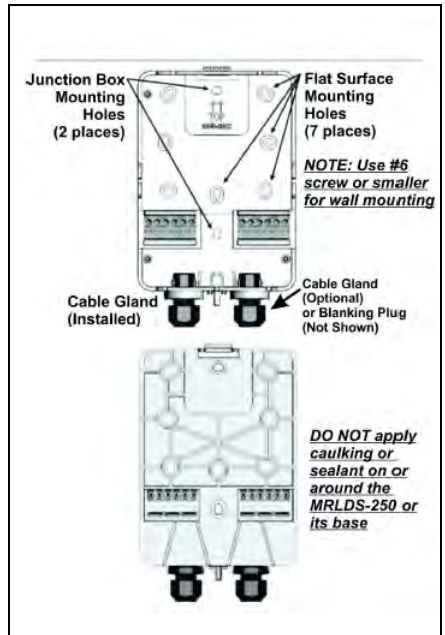

Figure A-2 - Front and Back of the MRLDS-250 Base
5. For Wall Mount, attach the MRLDS-250 base to the mounting surface using two #6 screws (provided) through two of the seven mounting holes (see **Figure A-2**). For Junction Box Mount, attach the MRLDS-250 base to the junction box through the two junction box holes.